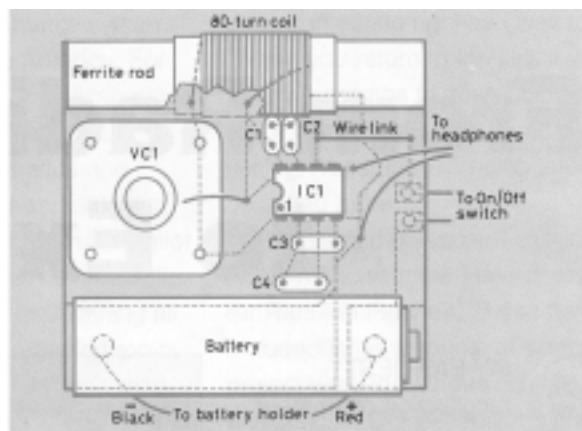

Figure 2b The PCB, component side
6. **Strip bare 1 cm of insulation from the ends of two wires.** Solder them between the PCB and the headphone socket (see Figure 3b). Use the end tabs on the socket. Using another pair of insulated wires connect the ON/OFF switch to the PCB tabs shown in Figure 2b.
8. **Fit IC1 into its holder.** This should be done carefully, making sure that *all* the pins are located above their respective clips *before* applying any pressure! Make sure also that the notch on the IC (as shown in Figure 2b) matches the notch in the holder, and faces VC1.